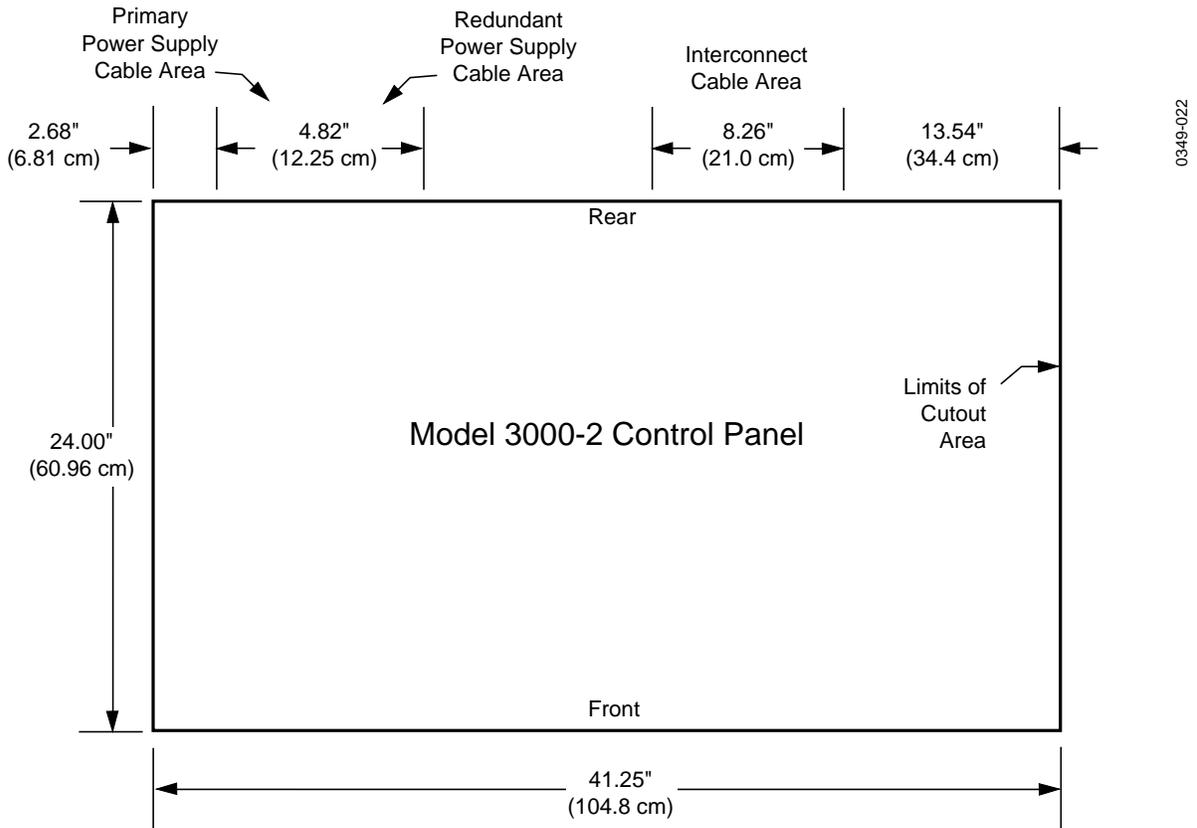

Figure 2-1. Model 3000-2 Control Panel Console Cutout Dimensions
1. Using the dimensions shown in Figure 2-1, make a cutout in the console to accommodate the Model 3000-2 Control Panel.